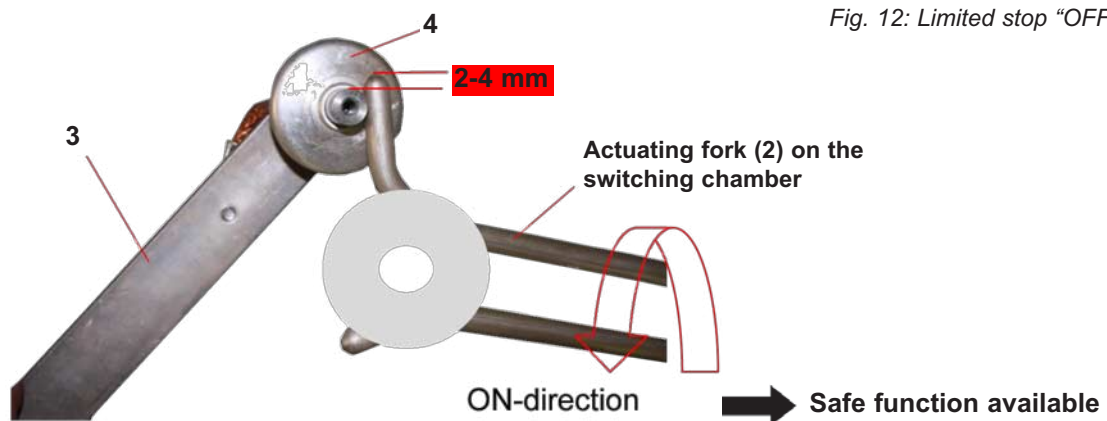

Fig. 13: Sectional view „upper“ end position of actuating fork (in OFF-position)
- Check also the position of the actuating fork (2) on the contact rollers (4) (Fig. 13 and 14)